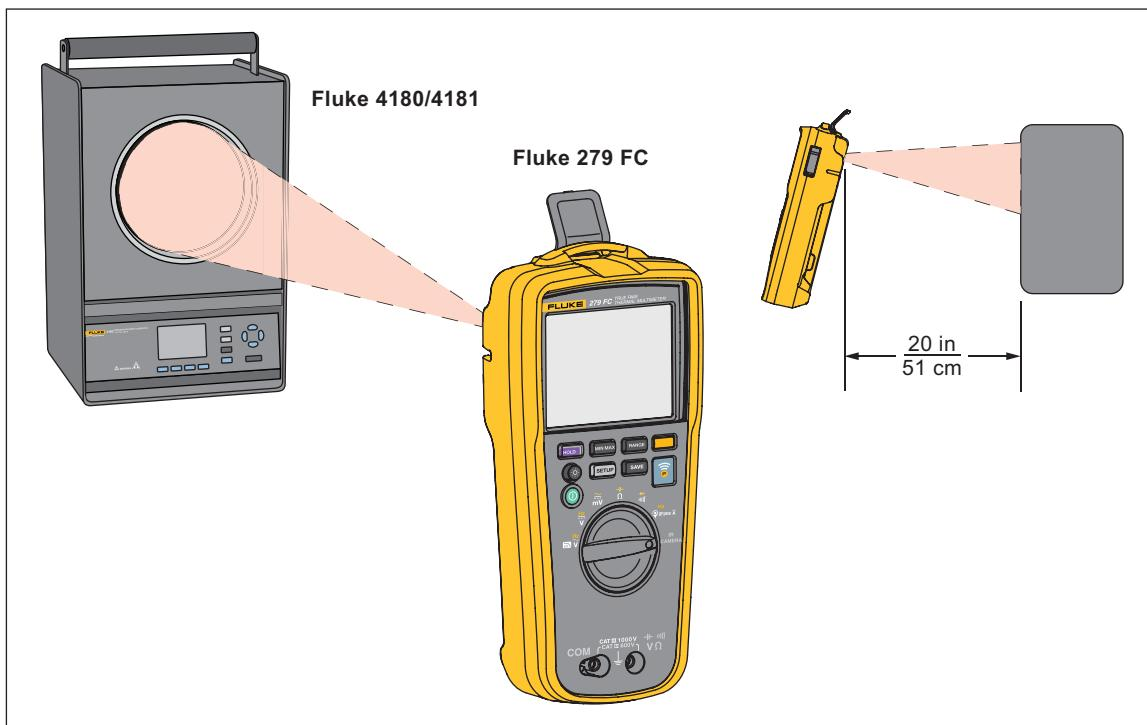

Figure 3. IR Camera Performance Test Configuration
7. Place the Multimeter 20 inches (51 cm) from the black body as shown in Figure 3.
3. Place the Multimeter 20 in (51 cm) from the black body. See Figure 3.